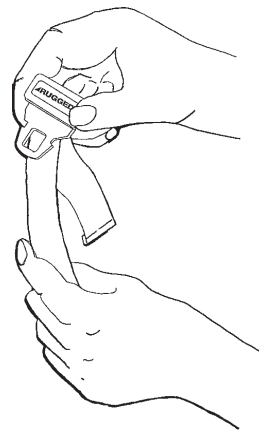

Figure 64b: Lengthening the Safety Restraint
- **To lengthen the restraint**, grasp the buckle latch plate, turn it at an angle to the webbing, then pull it out (Figure 64b). A hemmed tab at the end of the webbing prevents the latch plate from coming off of the strap.